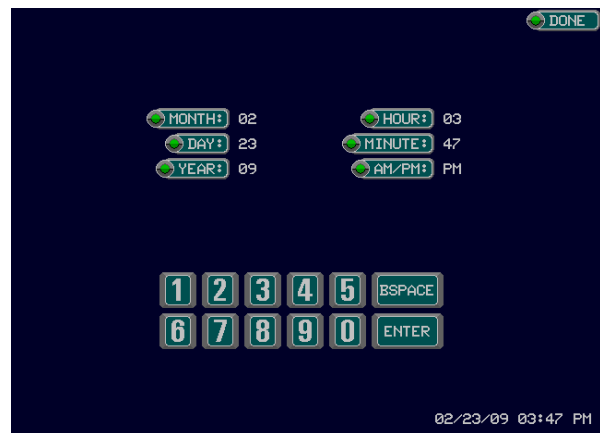

Figure 2-3
1. From the Main Screen, select the [**DATE and TIME**] button at the bottom right of the screen. Verify that the Date/Time screen appears. (See Figure 2-3).